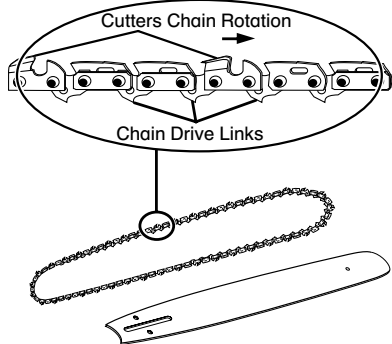

Fig. 25
- Lay out the new saw chain in a loop, and straighten any kinks. The cutters should face in the direction of chain rotation. If they face backwards, turn the loop over. (See Fig.25)